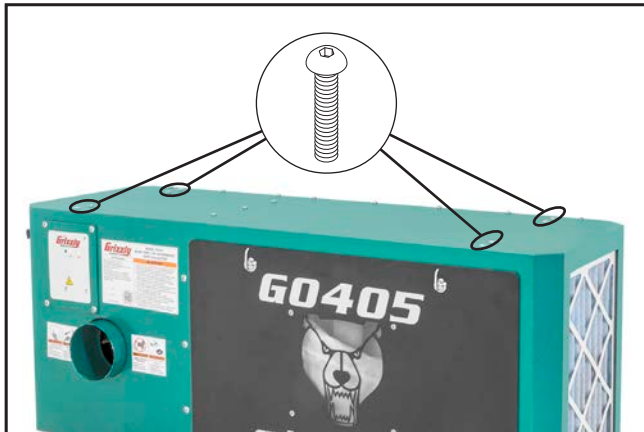

Figure 29. Location of screws to remove.
3. Remove (8) pre-installed button head cap screws shown in **Figure 29** from machine body. Set fasteners aside.